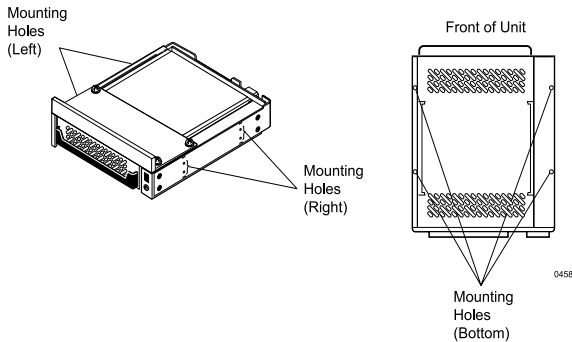

Figure 9: Receiving Frame Mounting Holes
4. With the drive carrier locked in place inside the receiving frame, install the DE75i-A into the 5.25" drive opening in the computer or expansion chassis. Use the appropriate guides to position the DE75i-A, and fasten it into place with the four (4) #6-32 x 1/4" screws provided. Figure 9 illustrates the location of the mounting holes. Mounting holes are provided on each side and the bottom of the receiving frame to accommodate a variety of mounting configurations. Use the mounting holes which best suit the computer or expansion chassis configuration. Note that bottom mounting holes require self-tapping screws (not provided).